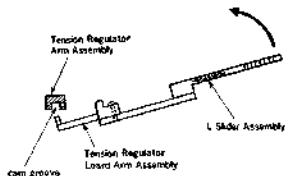

Fig. 2
- (1) Remove the Cassette-up Compartment Assembly referring to Section 7-13.
- (2) Remove the Fly Wheel referring to Section 7-2-1.
- (3) Remove the Threading Ring Assembly referring to Section 7-2-4.
- (4) Remove the Entrance Guide (P) Assembly referring to 7-2-10.
- (5) Remove the Slant Guide Block Assembly referring to Section 7-2-11.
- (6) Press the L-mode select button of the Mode Selector and set to the **DRUM START** mode.
- (7) Remove the Slant Guide Drive Gear.
- (8) Remove the two stopper washers from the L Slider Assembly.
- (9) While pushing the projection of the RL Arm Assembly in the direction of the arrow, lift the right side of the L Slider Assembly and remove it from the shaft.
- (10) Lift the right side of the L Slider Assembly as shown in figure 2 and remove the pin of the Tension Regulator Load Arm Assembly from the cam groove of the Tension Regulator Arm Assembly, and then remove the L Slider Assembly.
- (11) Remove the stopper washer and remove the Tension Regulator Load Arm Assembly.